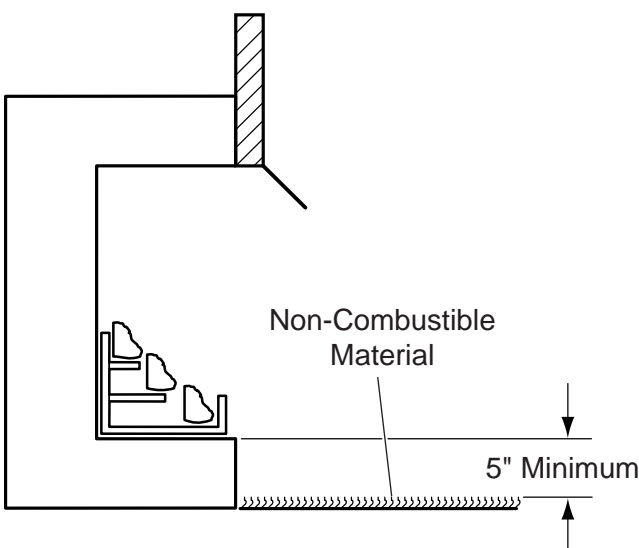

Figure 6 - Minimum Clearance above Combustible Flooring
5. **Floor clearance:** This inner chamber firebox floor must be installed at least 5" above any combustible flooring material, such as carpeting or asphalt tile, which is closer than 14" to the base of the firebox. See *Figure 6*.